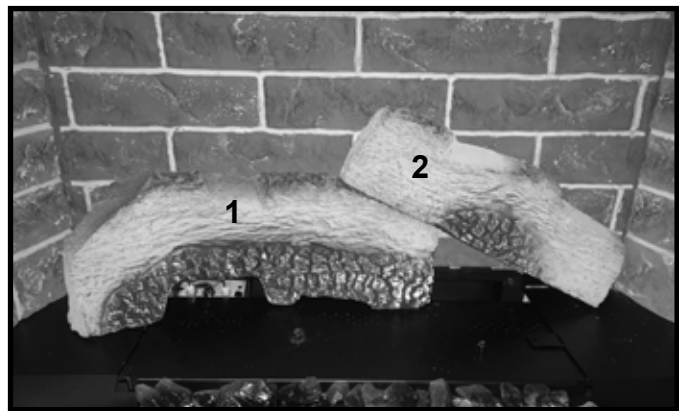

Figure 4 Install Log #2
2. **LOG #2:** Locate and install Log #2 by positioning the left side of the log on the flat spot of Log #1. The burned out area of Log #2 should align with the right edge of Log #1. When installed correctly, the front face of Log #2 should be flush with the front face of Log #1. See Figure 4.